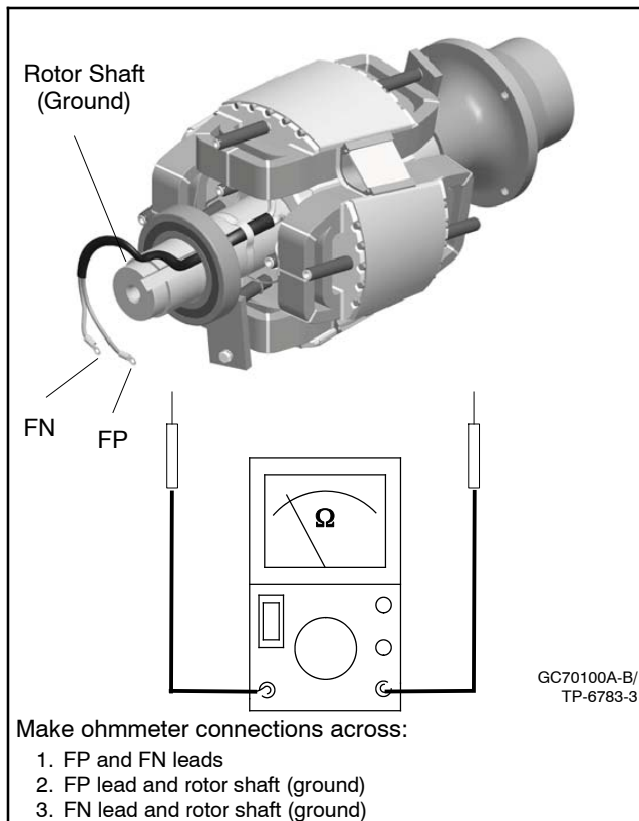

Figure 7-11 Rotor Field Continuity Check
4. With an ohmmeter, check for continuity across the FN/FP leads. Check for continuity across FN/rotor shaft and FP/rotor shaft. See Figure 7-11. See Section 1.4, Specifications, Electrical Values for rotor assembly field resistance values.